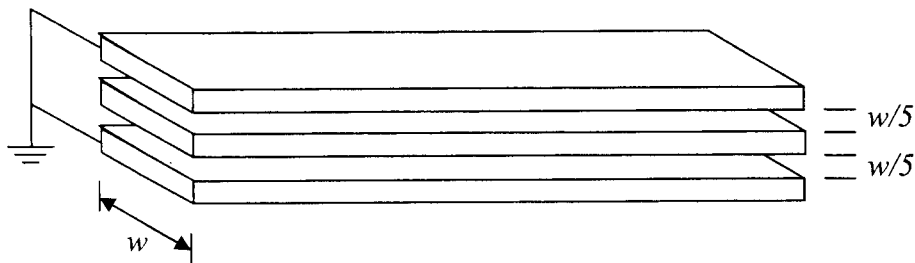

Figure 5
5. A strip transmission line consists of three long parallel strips of width w , as illustrated in Figure 5. Two strips are grounded, and sandwiched between them are two nonmagnetic insulators of equal thickness $w/5$ and relative permittivity 2.5, one on either side of the live conductor.